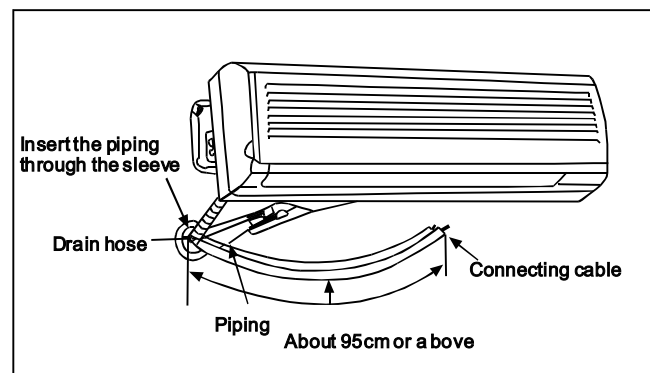
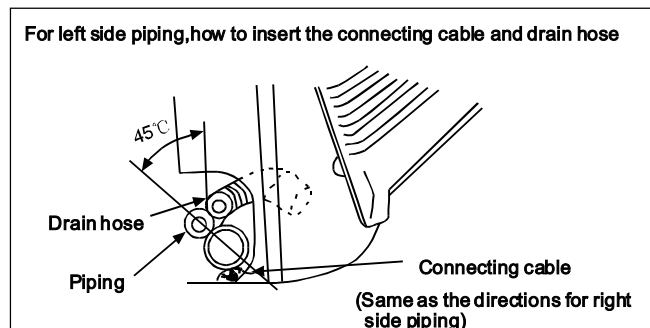

Fig.28
Fig.29
9.5.8. Install the indoor unit fixly. [REFERENCE Fig.28, Fig.29]